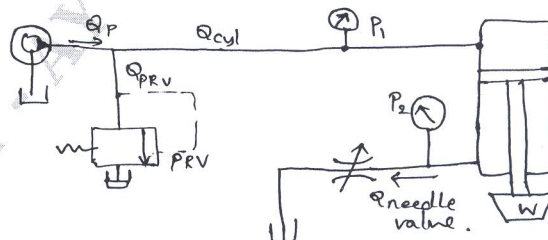

Fig. Q4(a)
- The system shown in the Fig. Q4(a), has a hydraulic cylinder with a suspended load W. The cylinder piston and rod diameters are 60 mm and 30 mm respectively. The pressure relief valve is set to operate at 5000 Kpa. Determine pressure P2 for a constant cylinder speed, if